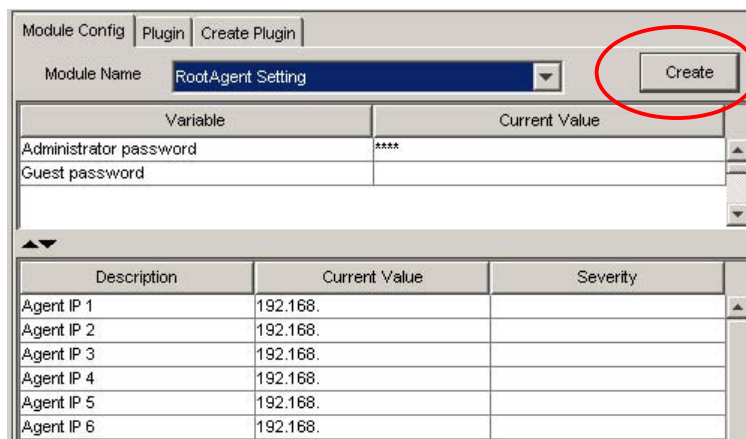
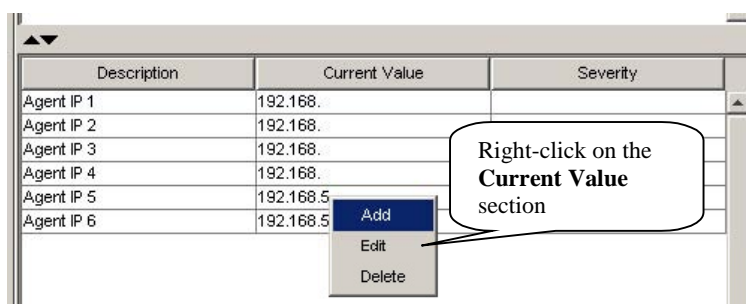

Figure 4-17: Agent List under Root Agent Setting
Figure 4-18: Agent List Right-click Menu
**Step 2.** To add or delete RAID Agents, click the *Create* button next to the **Root Agent** pull-down list to open an *Add Monitor Controller* window. (See *Figure 4-17*) The same command can also be activated by right-clicking on the agent list under *Current Value* section. (See *Figure 4-18*)